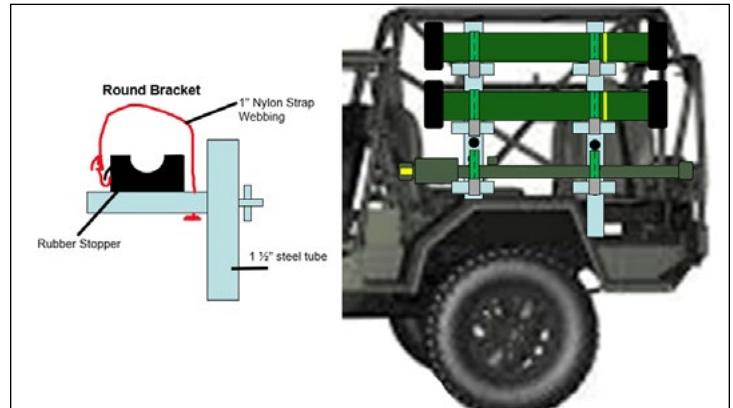

Figure 6 — AT ISV Variant Bracket
- Round holder (see Figure 6) will be used to secure rounds and allow for expedient access (follows closely after the M2A3 Bradley).